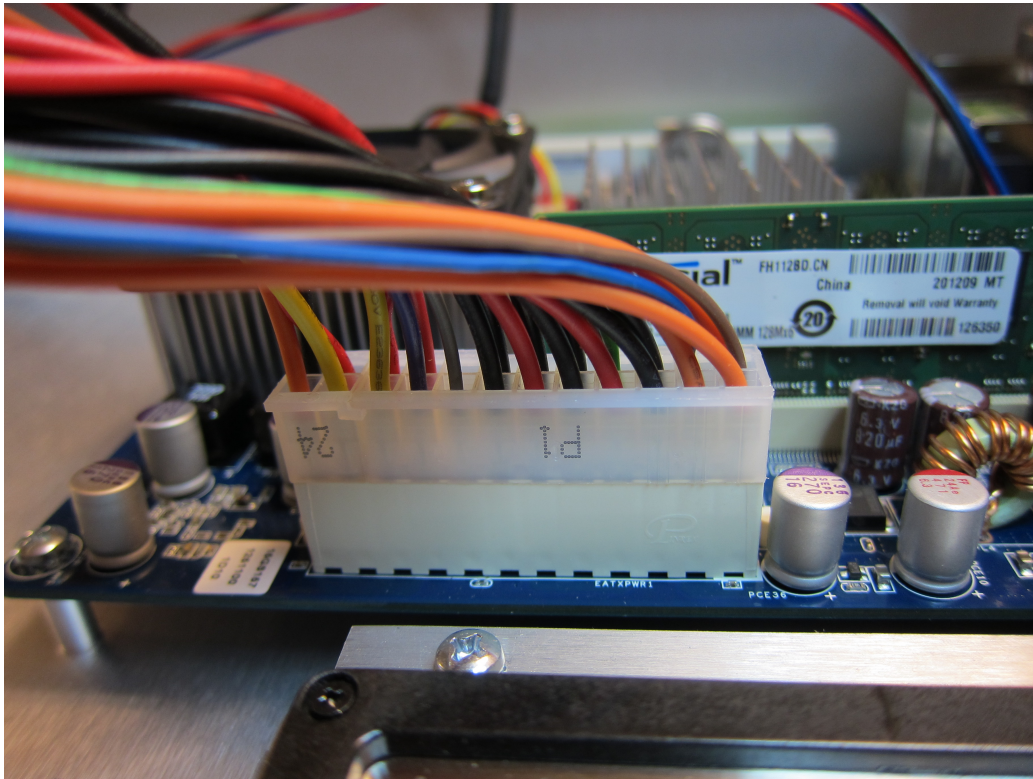

Figure 36: Motherboard power connector.
1. Connect power supply connectors P1 and 24 to the motherboard connector EATXPWR1, as shown in Fig. 36.